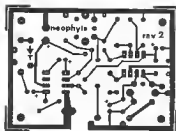

Fig 3—Circuit-board etching pattern for the Neophyte. The pattern is shown full-size from the top side of the board. Black areas represent unetched copper foil.
Fig 2 shows a rear view of the Neophyte. Most of the receiver's components are contained on the circuit board. Fig 3 shows the etching pattern for the board; parts placement is shown in Fig 4A. The Neophyte's "cabinet" consists of a 4 1/2 x 5 1/2-inch piece of 3/4-inch-thick pine (base) and a 4 x 8 1/2-inch piece of 3/4-inch-thick particle board, plywood or similar material (front panel). The base can be stained or painted as desired, alternatively, a metal or plastic cabinet can be used to house the Neophyte, if desired.
Building the cabinet and mounting controls and mechanical components is the greater part of constructing the Neophyte, so do this job first! Mounting the TUNING capacitor and reduction drive to the panel is the most time-consuming part of construction. The panel hole for the reduction-drive bushing must be large enough to allow rotation of the bushing and its set screw, but small enough to leave enough material to pass and hold the flat head screws used to mount the TUNING capacitor (see Fig 3). The best way to mark these holes is to make
See Fig. 3. The band-imaging receiver uses a Mini-Circuits SBL-1 doubly balanced diode-ring mixer (U1) followed by a strong bipolar-transistor IF amplifier (Q2). This is the circuit used in the K51RK/W7201 receiver, with several modifications. In the band-imaging receiver, the bifilar 4:1 collector transformer in the original design has been replaced with a toroidal monofilar choke,
No filter adjustment is necessary, but it is important that you use the specified crystals if you intend to duplicate the post-mixer-amplifier/pad/filter arrangement shown in Fig. 3. Substitutions at Y1 Y4 will require filter capacitors of other than 300 pF, resulting in 1/0 impedances of other than 200 ohms. Hayward states that the series-resonant frequencies of the four filter crystals must fall within a spread of no more than 10% of the desired 3-dB filter bandwidth. We chose to evaluate the performance of the filter in the more popular terms of -60 and -6 dB bandwidths, it follows that 10% spread is too generous when a given -6 dB filter bandwidth is the target. Experiments with various new and surplus 4-MHz, microprocessor-clock crystals in the ARRL lab showed that the new International Crystal Mfg. (ICM) crystals provided the best
**Fig. 3** — Schematic of the mixer, crystal filter and IF amplifier stages of this band-pass receiver. Capacitors marked with polarity are electrolytic. All capacitors are 0–50, 500 pF units unless otherwise noted. CE — 350-pF compensation trimmer (Aurco 428 or equiv.)